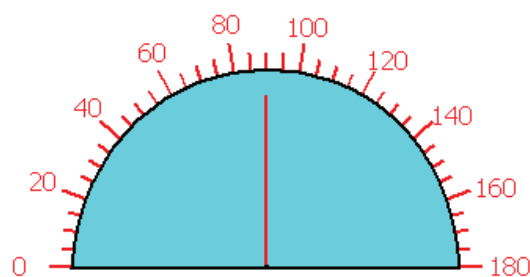

Figure 4-69
3. In screen edit area, press down left key of the mouse and drag the mouse to draw a Meter control. See Figure 4-69 for an example of Meter.